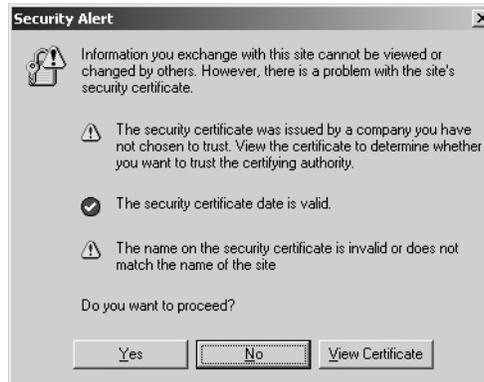

Figure 33: Accepting the security certificate
29. If you receive the Security Alert pop-up window shown in Figure 33, click **Yes** to accept the security certificate.